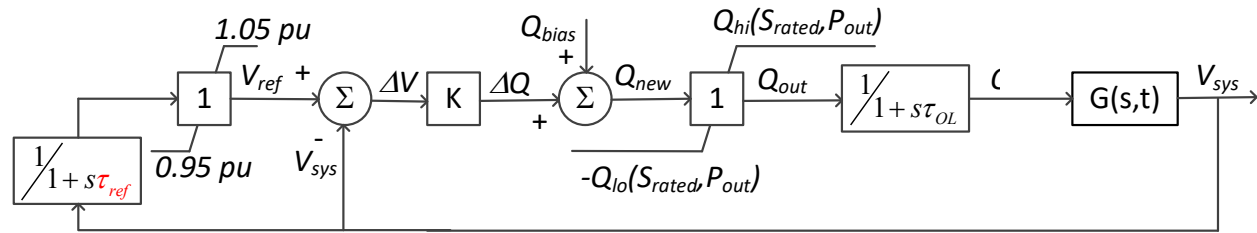

Figure 1: Control block diagram of the autonomously adjusting V_{ref} with time constant τ_{ref} .
This is an alternative to the *InvControl* element for *PVSystem*. It is based on the autonomously adjusting reference voltage option from the latest version of Clause 5.3.3 (Voltage-reactive power mode) in IEEE Standard 1547 [1]. In Figure 1, the set-point or reference voltage, V_{ref} , is not a constant value but rather tracks the grid voltage, V_{sys} , with a time constant, τ_{ref} , that is adjustable between 300s and 5000s. V_{ref} is still limited to the range 0.95 to 1.05 pu of the nominal voltage, V_N , as required in the standard. There is another time constant in Figure 1, τ_{OL} , for the open-loop response time that is adjustable up to 90s. Q_{hi} and Q_{lo} are now defined to give preference to reactive power over real power [1].
- Slope – the gain, K , in Figure 1. The default value of 50 is usually stable, but higher than the maximum allowed value of 22 for Category B inverters [1].
- VregTau – the time constant, τ_{ref} , in Figure 1. The default value of 300s is recommended.
- Tresponse – with reference to Figure 1, this is the time for the change in Q_{sys} to reach 90% of the commanded change in Q_{out} . Defaults to 0 for backward compatibility, but should otherwise be set to 10s for Category A inverters or 5s for Category B inverters. $Tresponse = 2.3 \tau_{OL}$. (The *InvControl* LPFtau attribute is similar, but defined for 95% response instead of 90% response.)
- Qbias – an optional steady-state dispatch of reactive power, indicated in Figure 1. In per-unit of each controlled *PVSystem* kva rating. Negative to absorb Q, positive to inject Q. Defaults to 0. If linked to an external reactive power dispatcher, this would be the signal input connection.